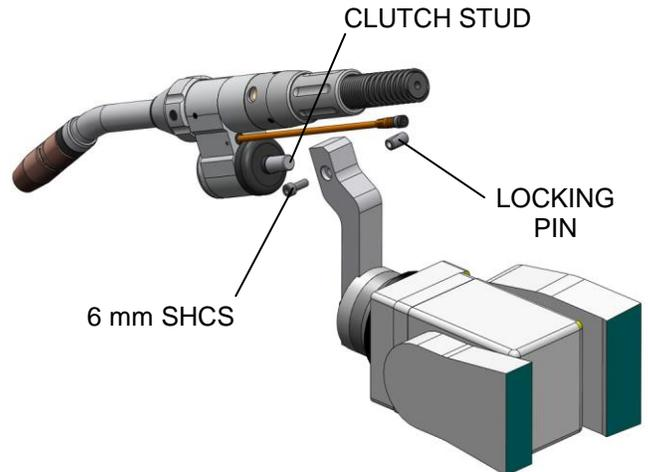

Fig. 1
- Remove the fastener and pin from the arm assembly (Fig. 1).